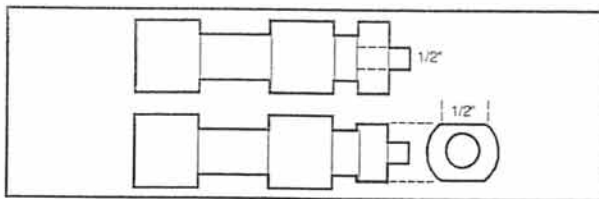

FIGURE 30A
**Modification to stock valve.** Grind two 1/2" wide flats onto the land nearest the 1-2 spring. (See fig. 30A)